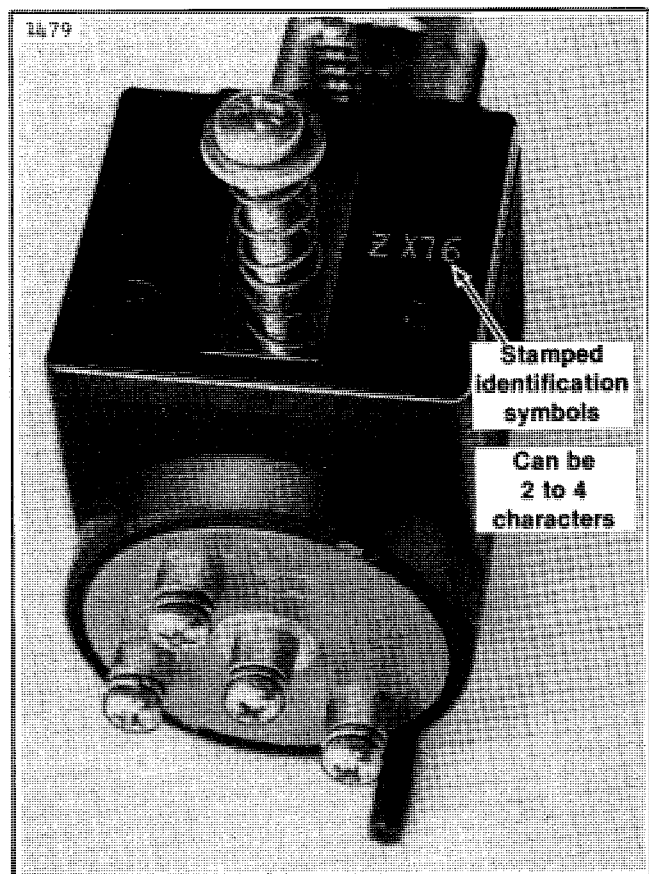

Figure 2. Ignition Switch/Fork Lock Assembly
6. You should now be able to see the inside switch housing body. Check for the presence of stamped identification symbols (See Figure 2). If there are no identification symbols stamped on the housing, the ignition switch/fork lock housing must be replaced. Proceed to Step 1 of the Replacement Procedure.